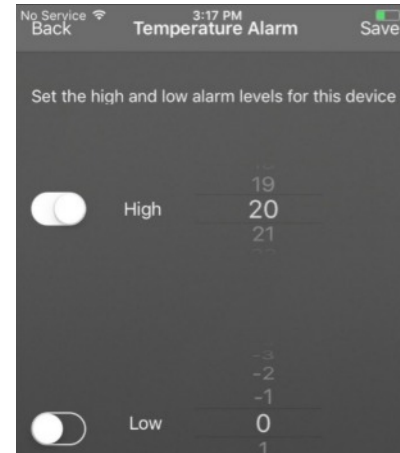

Fig. 4
6. Temperature Alarms Set the high and low alarm thresholds (See Fig. 4).